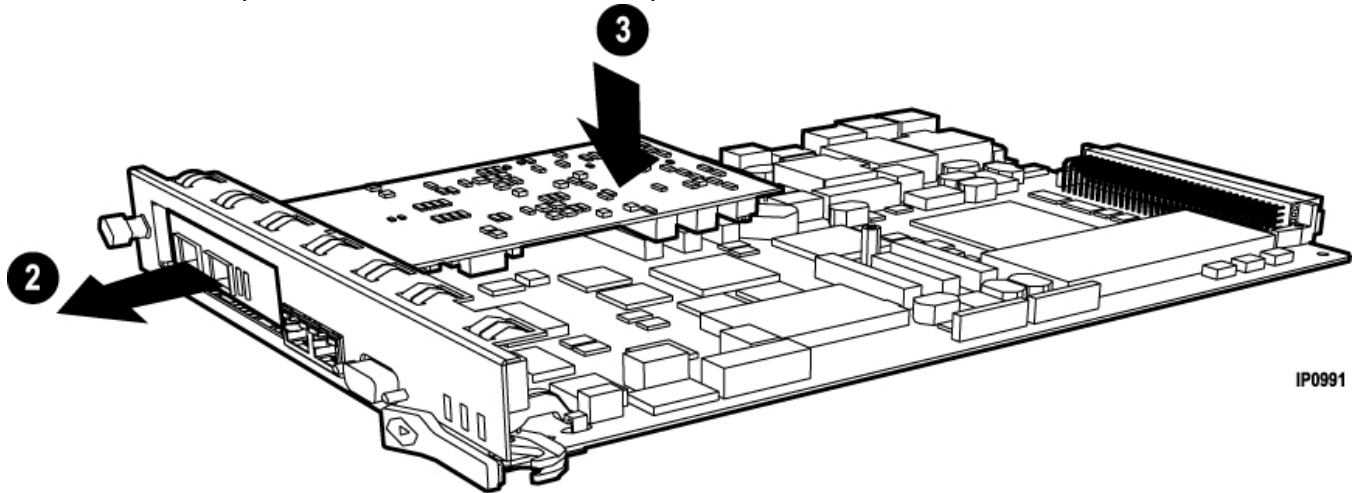

Figure 4.7: Slide in and seat module (AX)
6. Carefully slide the MMC face plate under the lip of the controller face plate. See . Do not push the MMC past the controller face plate as shown in Figure 4.7.